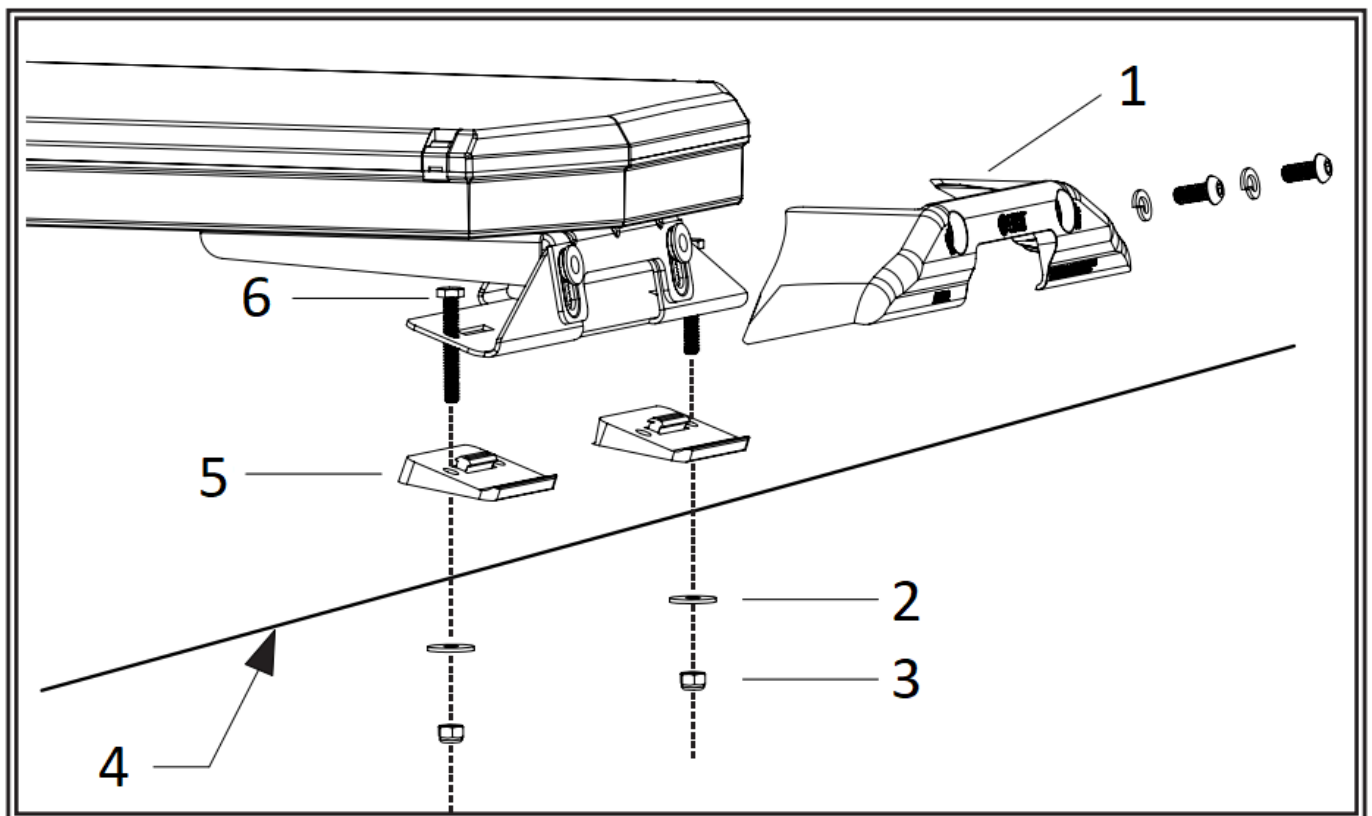

Figure 1
4. Attach the appropriate foot pad for the curvature of the roof surface per FIGURE 2. Secure the lightbar feet to the vehicle using the supplied 1/4"-20 hardware and reattach the adjustable foot cover as shown in FIGURE 1. See the Wiring section of this manual for further wiring instructions.